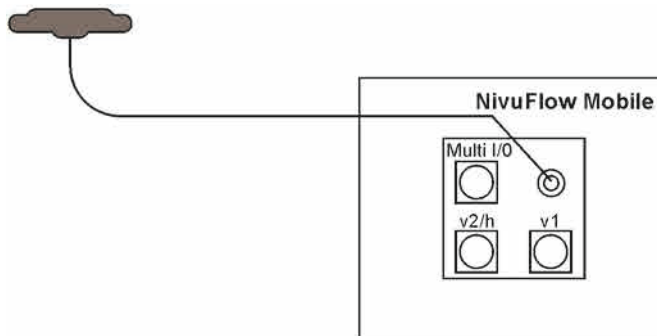

Fig. 28-1 Connection GPRS Antenna
1. Plug antenna cable into the socket on the unit (Fig. 28-1) and tighten the screw joint manually.